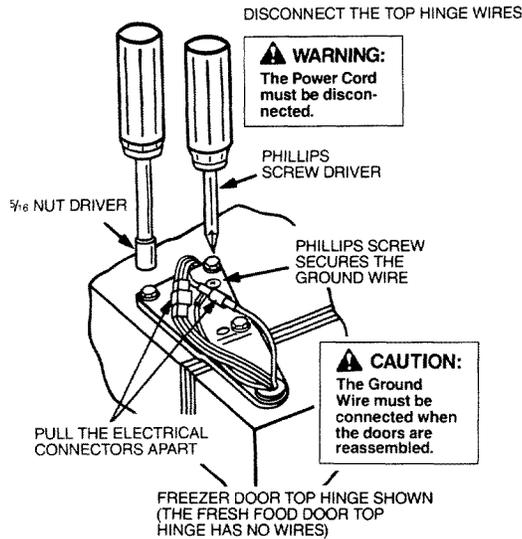

FIGURE 8
3. Disconnect top hinge freezer door wires. See Figure 8.
6. Remove the upper door hinges, (3) three screws per upper hinge. See Figure 8.